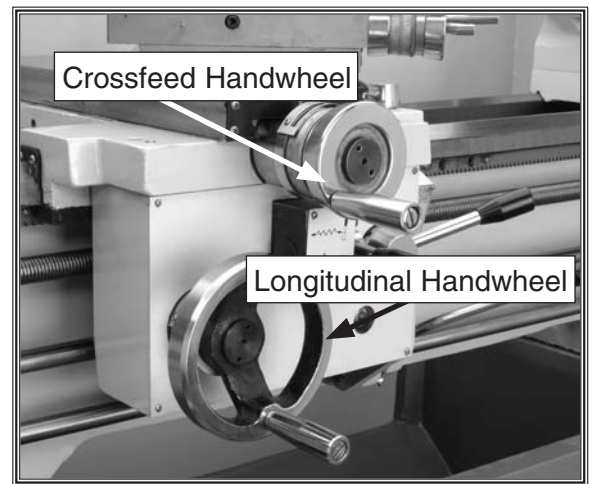

Figure 14. Longitudinal and crossfeed handle locations.
1. Using the screwdriver, attach the handles (**Figure 14**) to the threaded hole in the handwheels.